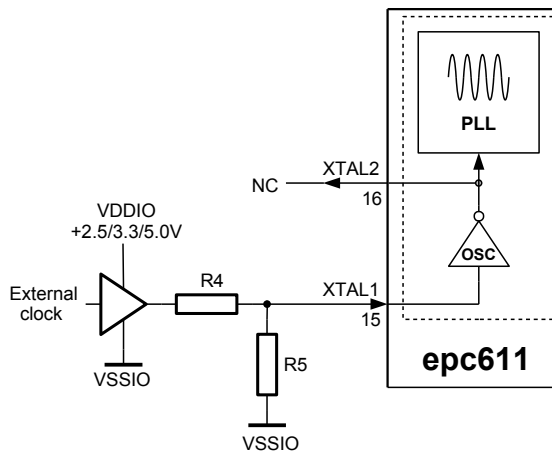

Figure 14: Resistor divider to adjust clock levels to V_{DDPLL}
2. Instead of a crystal, an external 4 MHz clock source can be connected to the XTAL1. XTAL2 output pin left unconnected. The input clock signal level must match V_{DDPLL} supply level (see Table 1). If the external clock source comes from the +2.5/5.0V voltage domain, a resistor divider adapts it e.g. in Figure 14 and Table 12.